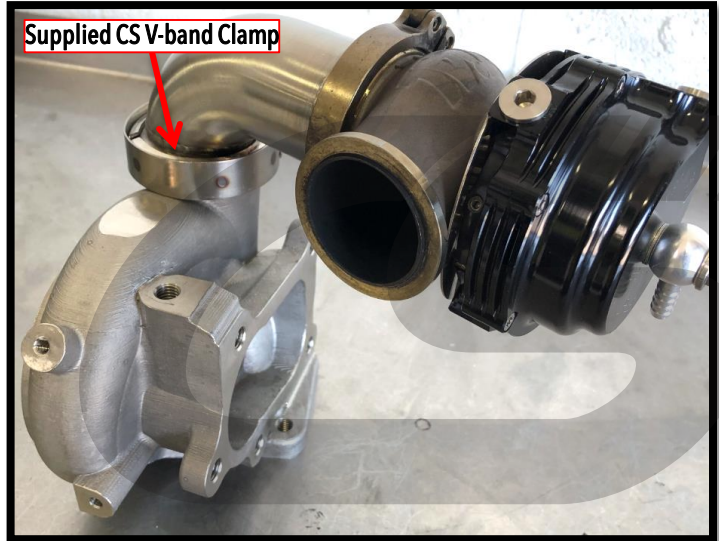

Figure 13c
- b) Attach the CS Elbow loosely on the EWG port of the turbine housing using the supplied CS V-band clamp. Again, tighten the clamp with an 11mm socket just enough so that the components stay connected together, but loose enough that they can still rotate. Shown in **Figure 13c**.